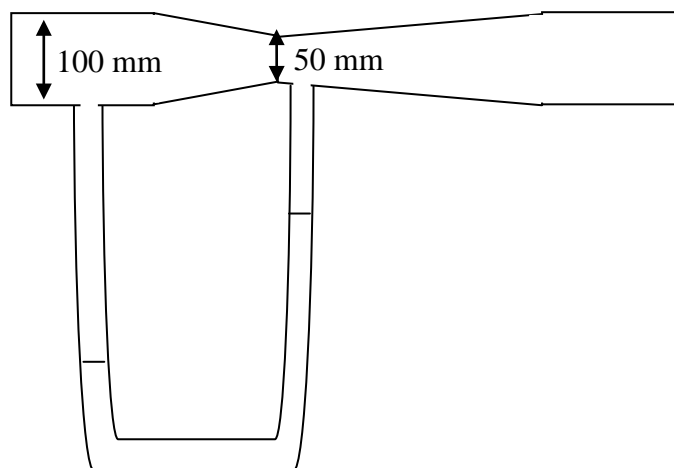

Figure 13: Venture meter. Pipe diameter 100 mm & throat diameter 50 mm
- [b] A venture meter similar to the one in the Figure 13 has a pipe diameter of 100 mm and a throat diameter of 50 mm. While it is carrying water at 80°C, a pressure difference of 55 kPa is observed between sections 1 and 2. Calculate the volume flow rate of water.